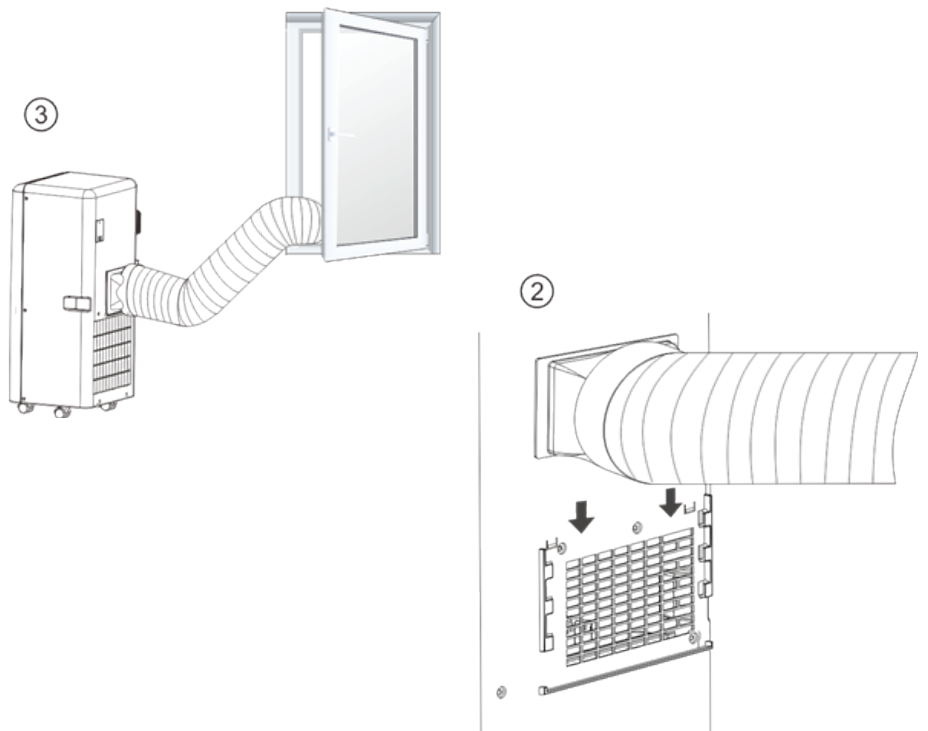

Fig.4
2. Insert the square fixing clip into air outlet at back of the air conditioner (see Fig.4).